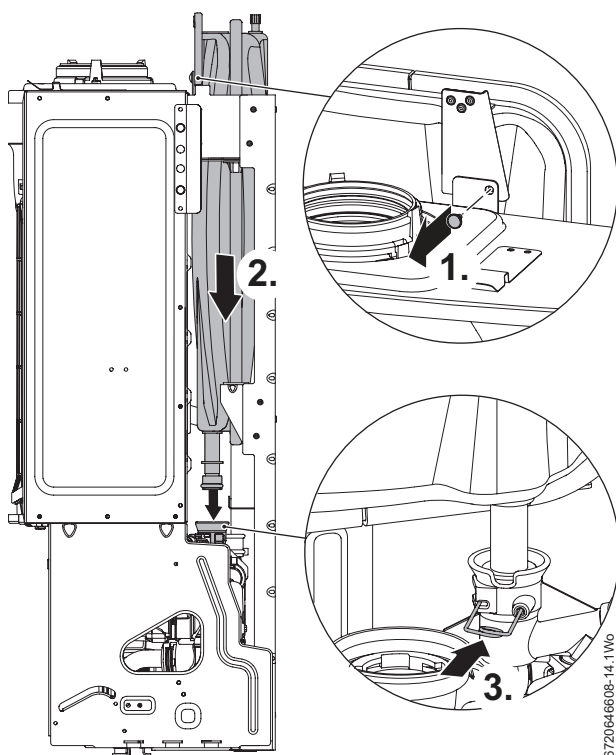

Fig. 32 Expansion vessel connection
1. Release the expansion tank from the retaining bracket, see fig. 32.
2. Ensure that the wire retaining clip on the pump manifold is fully withdrawn, but do not remove, before inserting the expansion vessel pipe into pump manifold, see fig. 32.